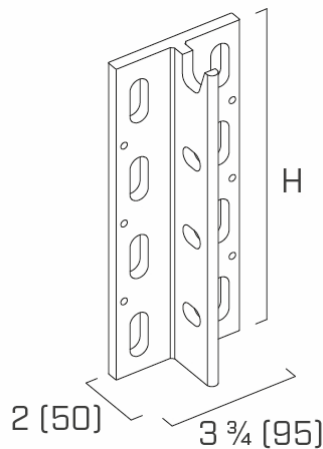

FIGURE 3—ALUMEGA HV CONNECTOR USED WITH VGU WASHERS (Not Shown)
3.1.2 ALUMEGA HV: The ALUMEGA HV connector flange has a single row of vertical slotted holes on each side of the stem, which are spaced $2\frac{3}{8}$ inches (60 mm) on center. The flange also has $\frac{3}{16}$ -inch-round (5 mm) holes for positioning screws. The stem has horizontal oblong holes spaced $2\frac{3}{8}$ inches (60 mm) on center. The primary fasteners are screws installed at a 45 degree angle to the face of the wood. This requires the use of proprietary washers installed in the slotted holes of the connector flange. See Figure 3 for a representative image of the connector.